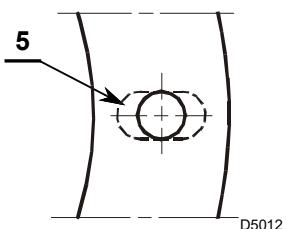

Fig. 7
- if necessary, widen the holes of the insulating gasket 5) Fig. 7).